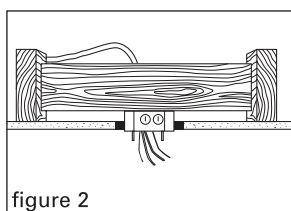

figure 2
2. Put locknuts on mounting bolts, push wires back into box and replace Saf-T-Cap® (figure 2).